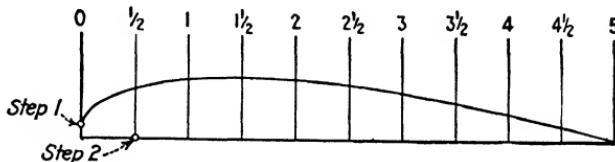

Fig. 180.
Step 1.—At station 0, the lower camber is $\frac{3}{8}$ in. above the datum line. Notice that this is the same point as that of the upper camber (see Fig. 180).
Step 2.—At station $\frac{1}{2}$ in., the lower camber is 0 in. high, that is, flat on the datum line as shown in Fig. 180.